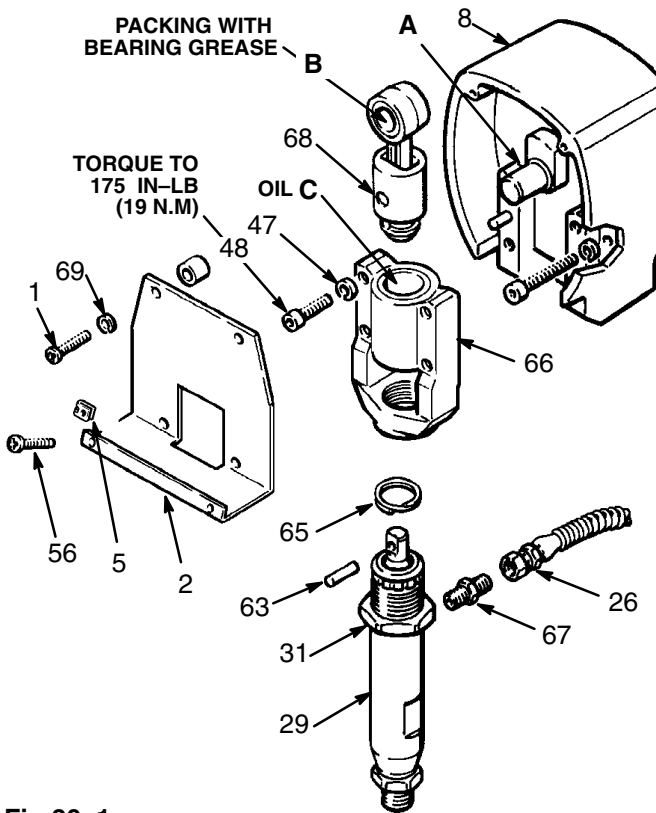

Fig 30-1
12. Install the front cover (2). Connect all hoses. See Fig 30-1.